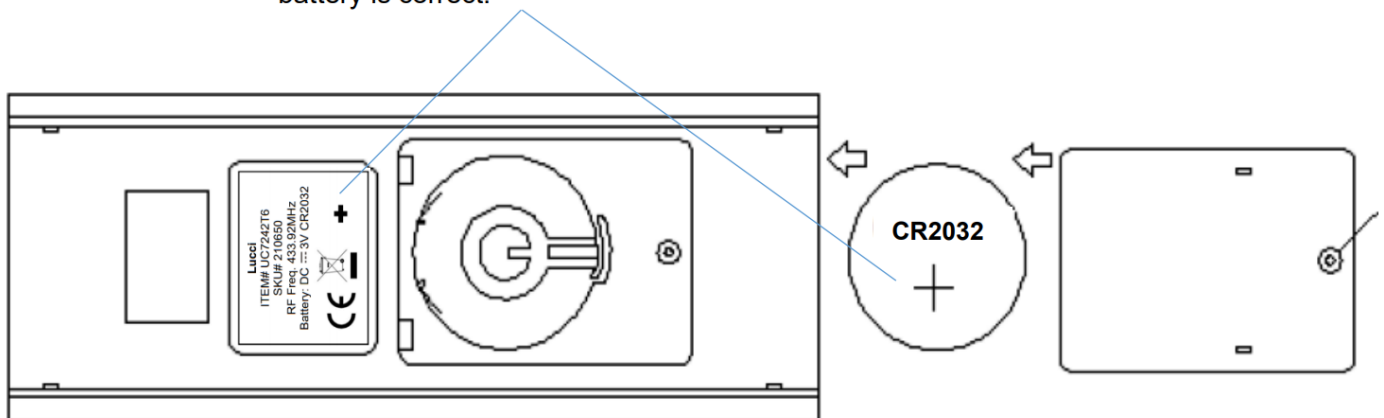

Fig. 11
BATTERY INSTALLATION (Fig.11)
Install the 3V CR2032 DC battery in the compartment. Please make sure the polarity of the battery is correct. (Fig. 11)
- Install the 3V CR2032 DC battery in the compartment. Please make sure the polarity of the battery is correct. (Fig.11)